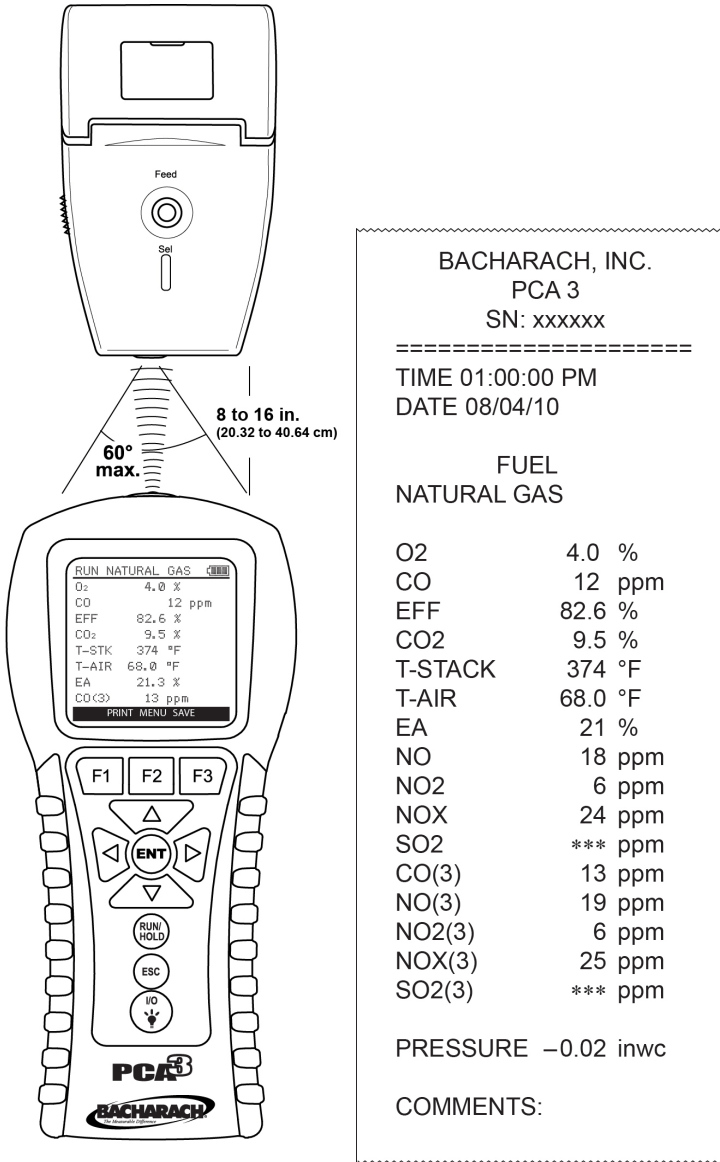

Figure 5-21. Printer Alignment and Sample Printout
2. Align the printer with the top of the analyzer as shown in Figure 5-21.
The printout shown in Figure 5-21 shows typical combustion test results of an analyzer containing O₂, CO_{LOW}, NO, and NO₂ sensors. Note that since the SO₂ sensor is not installed, three stars (***) appear in their data fields.